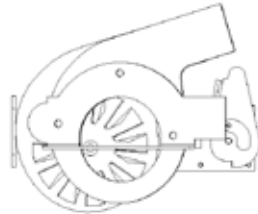

Fig. 32
6. Remove the combustion blower cover by turning the blower cover latch vertical as shown in fig. 32. Slide the cover out of the slot on the left. This will expose the combustion blower wheel and flue outlet, fig. 33.